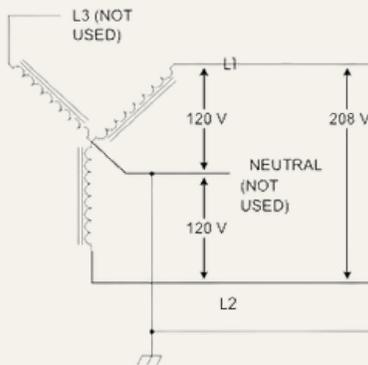

Figure 4: 208 V three-phase, wye-connected
-  **CAUTION:** If a 240 V three-phase feed is from a Delta-connected secondary, the leg used must have a center-tap. That tap must be Grounded. Only the two phases on either side of the center-tapped leg can be used. See Figure 4.